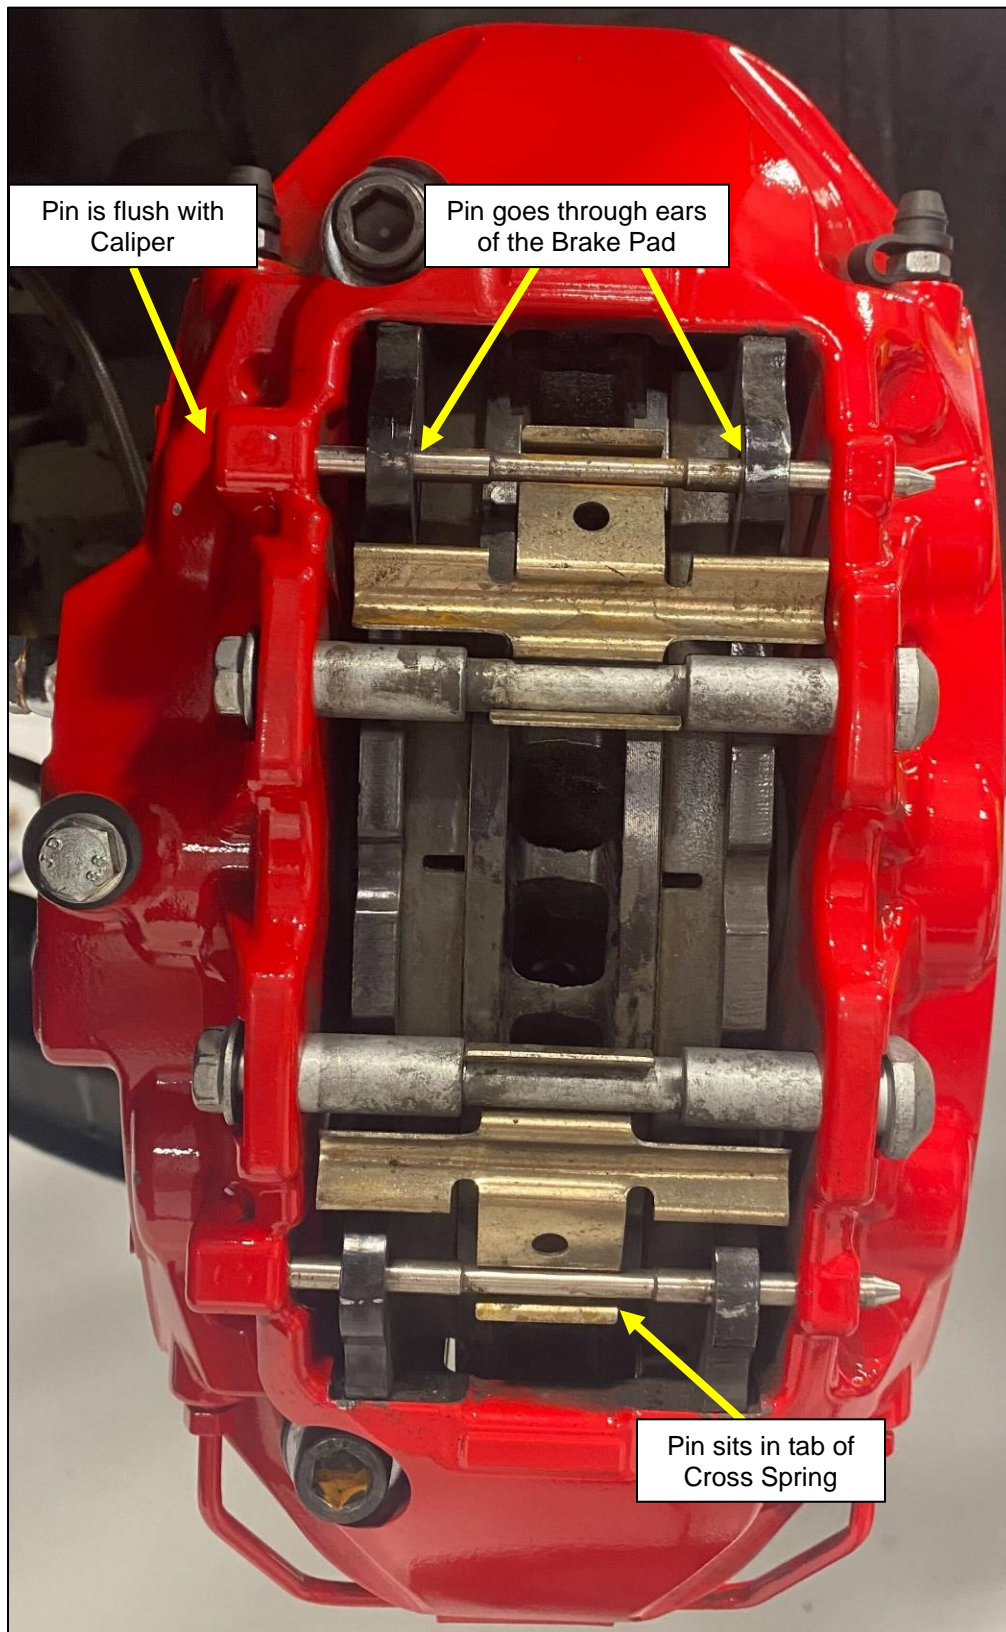

Figure 14
20. Locate (2) two Pad Pins. Insert them through the inboard side of the Caliper, and through the Ears of the Pads, as well as the Channel of the Cross Springs. This may take some adjustment of the pads and Cross Springs. Lightly tap the Pins with a rubber hammer to install them all the way, they should sit flush with the Caliper when properly installed. *Figure 14.*